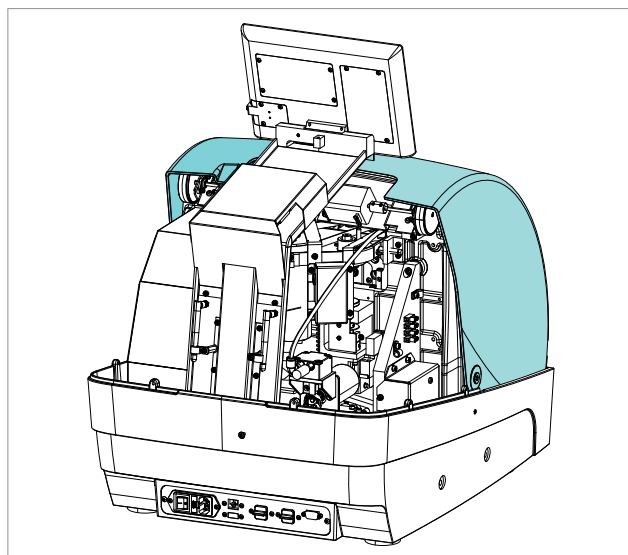

Fig. 70
- 3) Remove the cover slowly. (Fig. 70).
- 4) Replace the cover (E) and secure with the seven screws (E1).